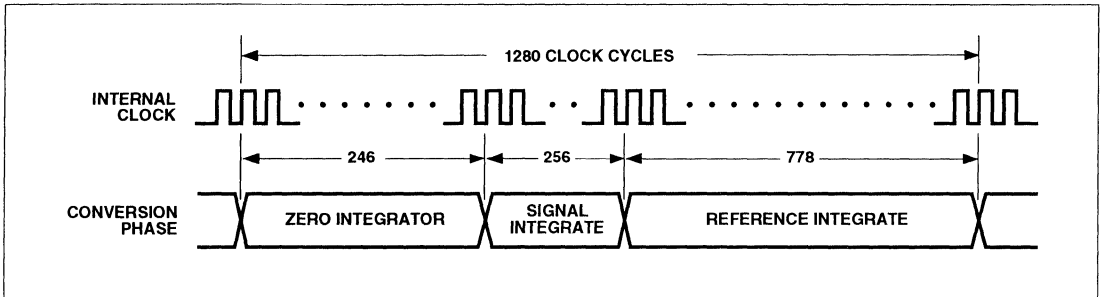

Figure 4 Conversion Timing
Each conversion consists of three phases: (1) Zero Integrator, (2) Signal Integrate, and (3) Reference Integrate (or Deintegrate). Each conversion cycle requires 1280 internal clock cycles (Figure 4).